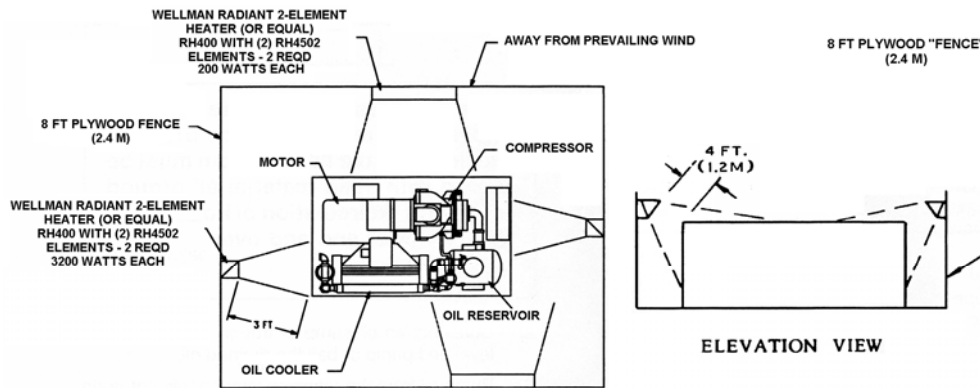

Figure 2-3 – COLD WEATHER INSTALLATION
INSTALLATION FOR COLD WEATHER OPERATION (Figure 2-3) - It is recommended that the unit be installed inside a shelter that will be heated to temperatures above freezing (32°F, 0°C). This will eliminate many of the problems associated with operating units in cold climates where freezing rain, drifting snow, freezing condensate and bitter cold temperatures are encountered.
3. Some means of providing heat during shutdown. Start-up should be provided. There are various methods to accomplish this, but since openings are not provided for sump heaters, the use of radiant heaters is recommended. The heaters should be sized to provide at least a +10° F (-12 C) environment for coolers, motor and sump. Figure 2-3, page16, shows how these might be located in a typical installation and sizes required.